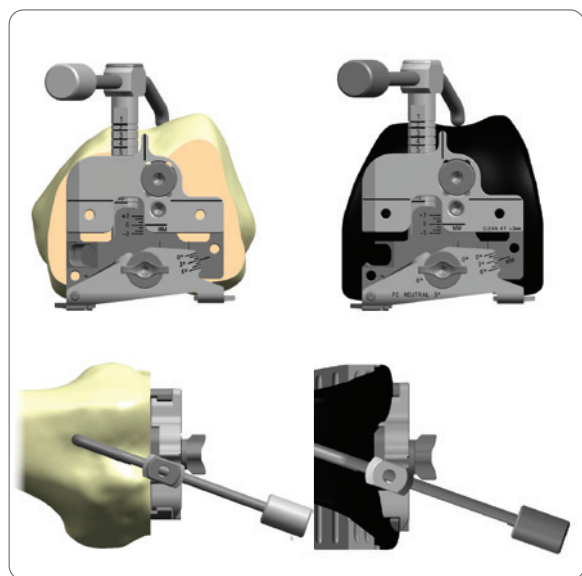

Figure 88
4. Insert the JOURNEY Sizing Stylus to the guide and estimate the A/P femoral size. Position the stylus tip just lateral of the anterior trochlear sulcus (**Figure 88**). If desired, use the indicated size Femoral Trial to compare the ML width before selecting which size A/P Cutting Block to use.